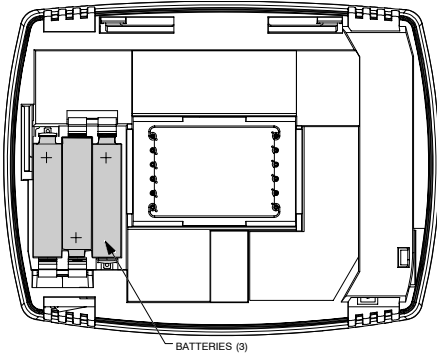

Figure 11 - Installing Batteries
1. Install three AAA alkaline batteries on the back of the thermostat as marked (see figure 11).